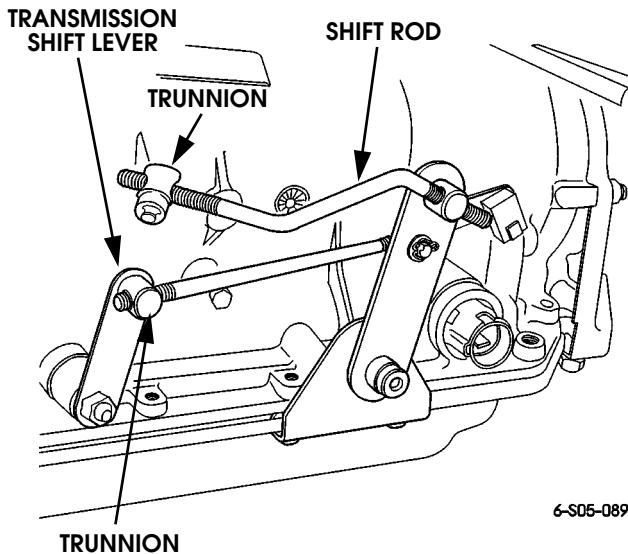

Figure 5-58: Transmission Shift Linkage
1. Move shift lever to manual low (1) range.
3. Verify that transmission shift lever (Figure 5-58) is in manual low (1) range. If not, disconnect lever trunnion and adjust trunnion in, or out as needed. Then reconnect lever rod to shift lever.